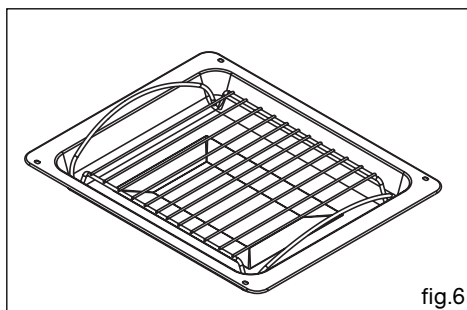

fig.6
- **Sloped 45 mm dish equipped with a special grid for grilling (fig.6)**